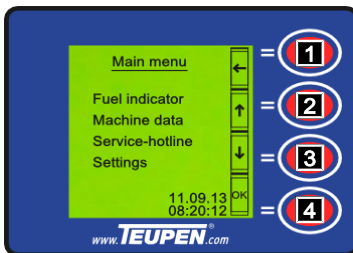

Fig. 82
1. Use the [function keys] (Fig.82/2 and 3) to select a submenu.
2. Access the selected submenu with the [function key] (Fig.82/4).
3. Return to the previous screen with [function key] (Fig.82/1).